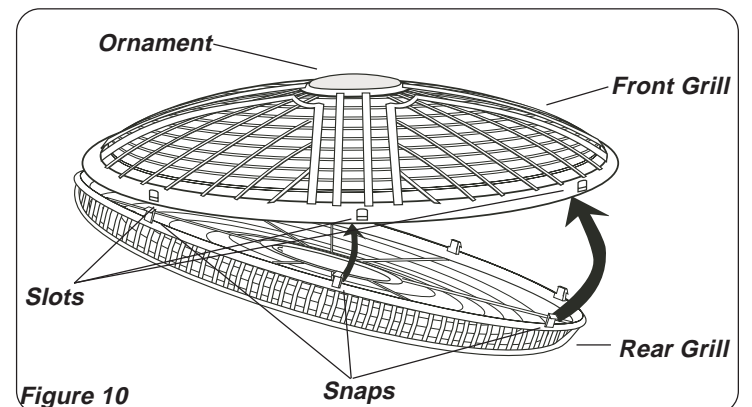

Figure 10
6. With fan head in upright position, align **Ornament** of **Front Grill** so it is horizontal and right side up. Starting with the top of the grill and working down, insert **Snaps** on **Rear Grill** through **Slots** in **Front Grill**. (**Figure 10**)